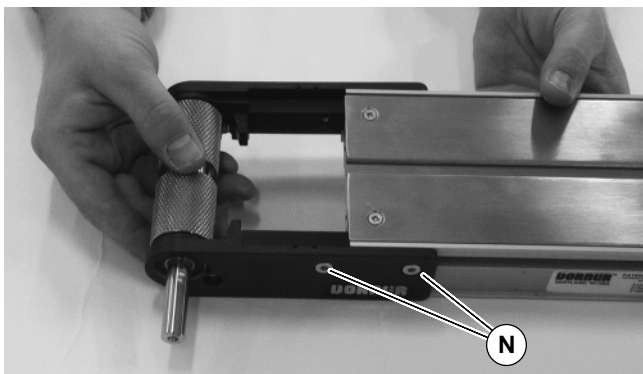

Figure 12
13. Install pulley assembly on conveyor. On both sides of conveyor tighten fastening screws (N of Figures 12 and 13) to 60 in-lbs (7 Nm).